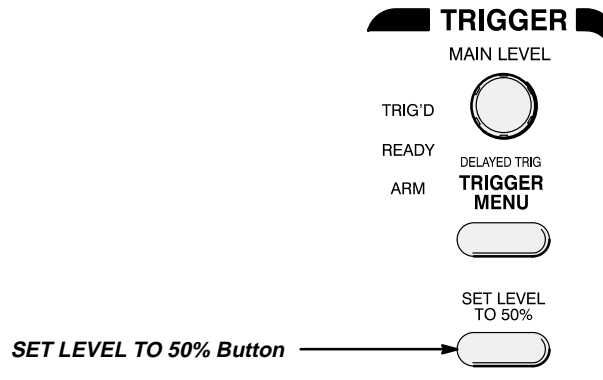

Figure 1-6: Trigger Controls
4. Press **SET LEVEL TO 50%** (see Figure 1-6) to be sure the oscilloscope triggers on the input signal.